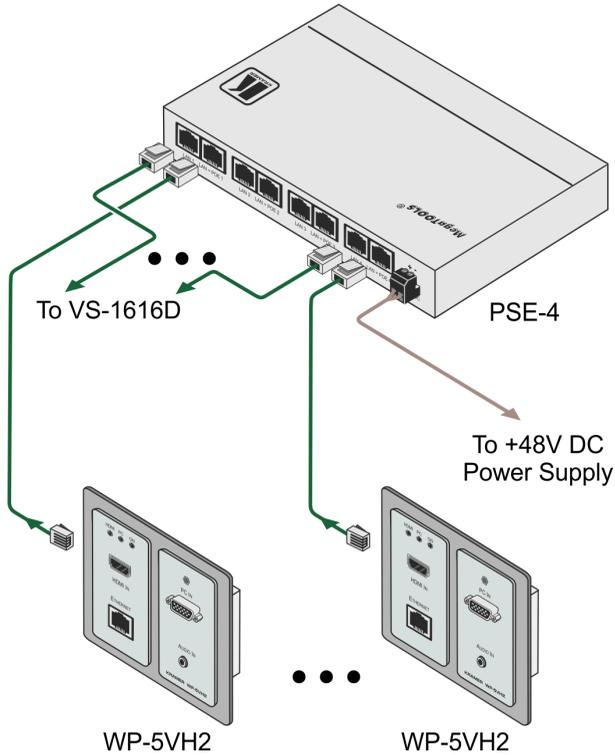
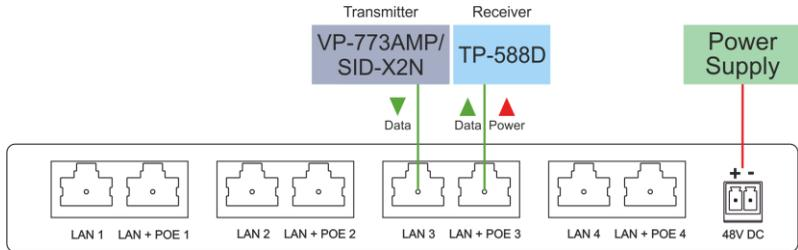

Figure 3: Connecting the PSE-4 10G Quad POE Injector
Figure 4: The PSE-4 Supplying Power to Receivers
| Figure 3: | Connecting the PSE-4 10G Quad POE Injector | 6 |
| Figure 4: | The PSE-4 Supplying Power to Receivers     | 7 |
To connect the PSE-4 as illustrated in the example in Figure 3:
**Note:** The **PSE-4** can provide power via the LAN+POE ports to either an HDBT transmitter or receiver. Figure 3 illustrates this by showing the **PSE-4** providing power to transmitters. The **PSE-4** can also provide power to receivers as shown in Figure 4.